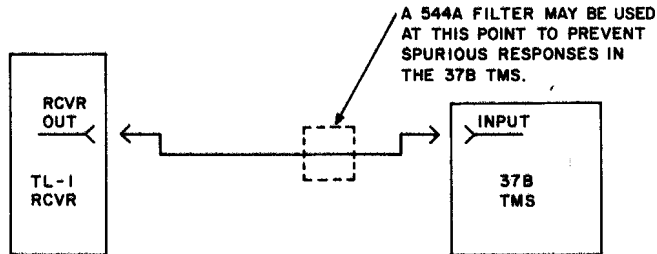

Fig. 1—Idle Noise Test—Test Setup Diagram
- 2 Connect a calibrated 37B TMS to the receiver RCVR OUT jack as shown in Fig. 1.